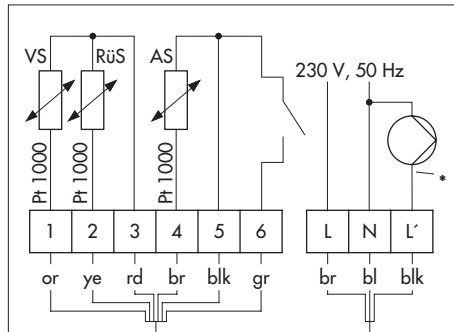

Fig. 2 · Wiring of Type 5757-7 (default)
The default setting (WE) is configured for an application with a flow sensor, outdoor sensor and return flow sensor as well as with an active binary input to switchover the operating modes (see Fig. 2).